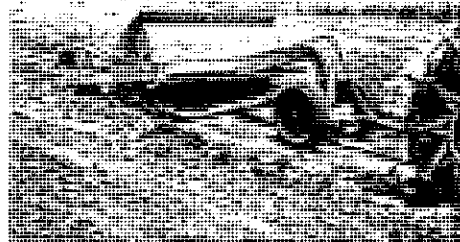

Figure 19
5. Check depth gauge. (Fig. 19) With the cutting bit approximately $\frac{1}{8}$ to $\frac{1}{4}$ inch off the floor, notice if the leading edge of the rear pipe brackets (or cutting gauge) S2373 lines up with the marker on the front of the gate. If not, bend it slightly until it does.
CUTTING GAUGE—(Figure 19)—The cutting gauge will aid you in making smoother cuts with the wheels inside the frame and permit you to judge the depth of cut when working with the wheels outside. The gauge line or marker at each side on the front of the gate should line up with the top of the rear hydraulic pipe brackets when the cutting edge is $\frac{1}{8}$ to $\frac{1}{4}$ inch off a level floor. (See item 5 of "Check off list") This represents "zero cut" with the wheels outside the frame.